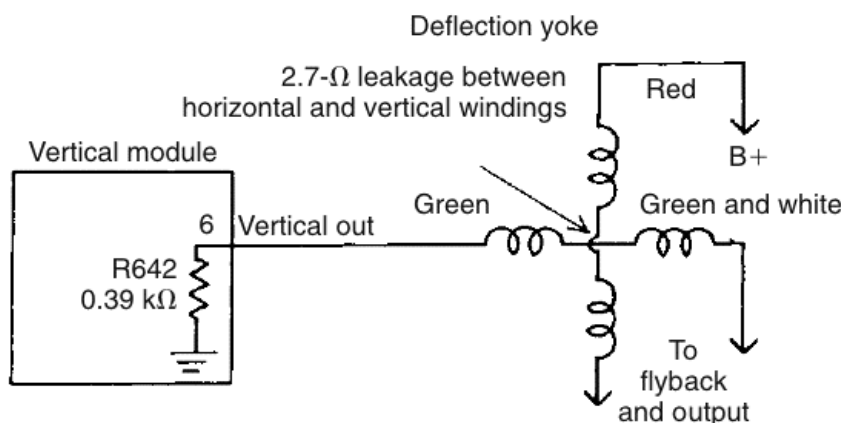

FIGURE 4-48 The deflection yoke leakage in a J.C. Penney 682-2114 chassis caused the line fuse to blow.
J.C. Penney 682-2114 open fuse The F910 (1 A) fuse would constantly open when a new fuse was inserted. The leaky component was beyond the horizontal output transistor with the 100-W bulb test. At first, the flyback transformer was suspected. But when the red lead of the yoke was removed from the circuit, the light bulb brightness dimmed (Fig. 4-48). A quick measurement of the horizontal and vertical yoke connections indicated a 2.7- Ω short between the two windings. Replace the deflection yoke with the original replacement part.